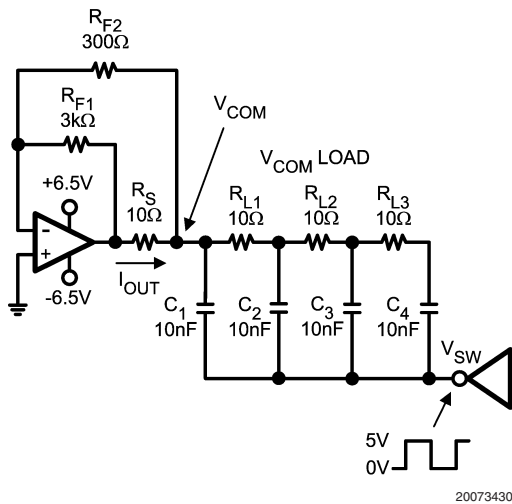
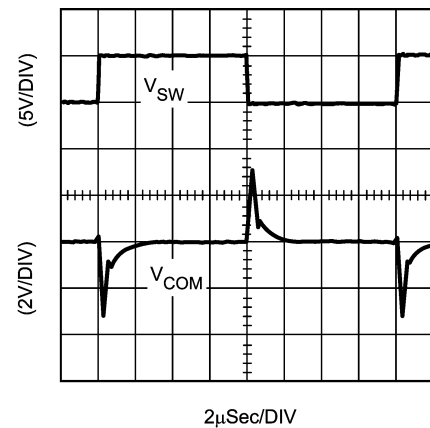
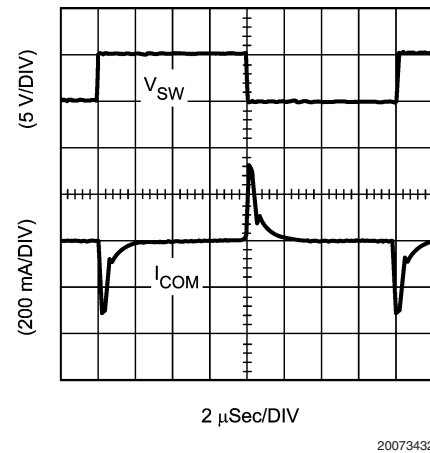

FIGURE 5.  $V_{COM}$  Driver Test Circuit
FIGURE 6.  $V_{SW}$  and  $V_{COM}$  Waveforms from  $V_{COM}$
FIGURE 7.  $V_{SW}$  and  $I_{OUT}$  Waveforms from  $V_{COM}$  Test Circuit
*Figure 5* is a common test circuit used for measuring  $V_{COM}$  driver response time. The RC network of  $R_{L1}$  to  $R_{L3}$  and  $C_1$  to  $C_4$  models the distributed RC load of a  $V_{COM}$  line. This RC network is a gross simplification of what the actual impedance is on a TFT panel. However, it does provide a useful test for measuring the op amp's transient response when driving a large capacitive load. A low impedance MOSFET driver applies a 5V square wave to  $V_{SW}$ , generating large current pulses in the RC network. Scope photos from this circuit are shown in *Figure 6* and *Figure 7*. *Figure 6* shows the test circuit generates positive and negative voltage spikes with an amplitude of  $\pm 3.2V$  at the  $V_{COM}$  node, and both transients settle-out in approximately 2 $\mu$ s. As mentioned before, the speed at which these transients settle-out is a function of the op amp's peak output current. The  $I_{OUT}$  trace in *Figure 7* shows that the LM6588 can sink and source peak currents of  $-200mA$  and  $200mA$ . This ability to supply large values of output current makes the LM6588 extremely well suited for  $V_{COM}$  Driver applications.